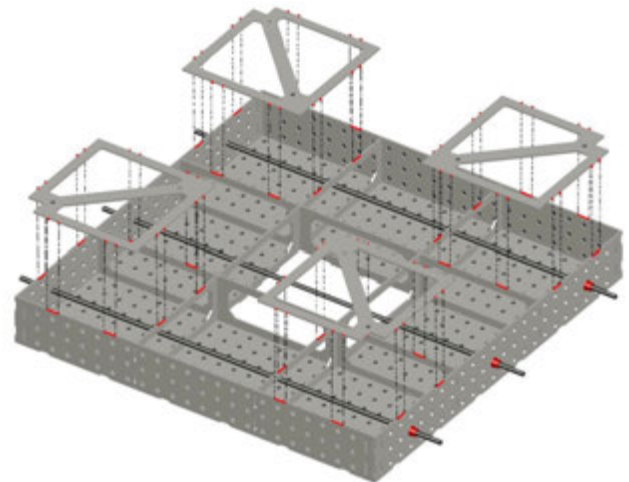

Figure 5-4
4. Insert three 1/2" threaded rods through one of the table sides and out the opposite table side. Using washers and nuts, lightly tighten each end of the threaded rods to snug the two side panels to the support frames and table top (see Figure 5-4).
5. Lay the four leg plates (item #6) in place as shown in Figure 5-4. Make sure the welding tabs of the leg plates seat into the welding notches of the support frames and side panels.